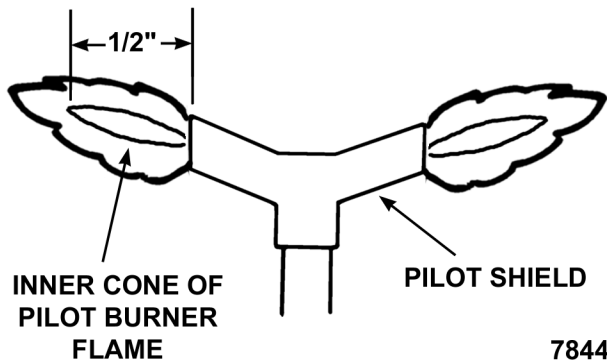

Fig. 34
3. Verify flame does not extend beyond the outer edges of pilot shield 1/2", or extends more than 1/2", (Fig. 34). If adjustment is necessary continue with procedure.